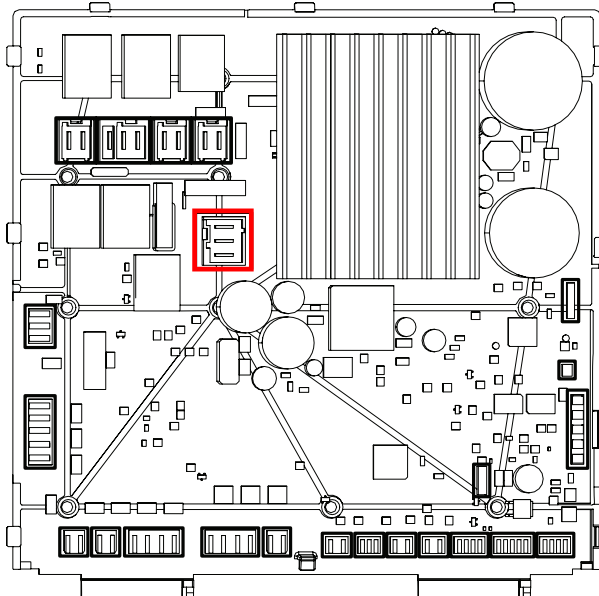

Figure 1 - Location of J6 on Appliance Control Unit (ACU)
6. Disconnect motor connector harness from J6 on the Appliance Control Unit (ACU) (see Figure 1).